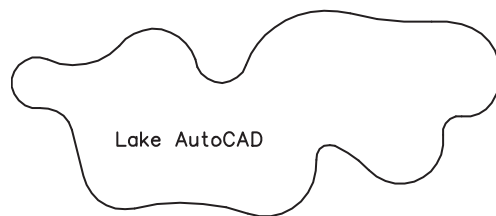

Fig. 5-11
1. Complete the drawings shown in Figs. 5-11 and 5-12. Don't worry about text matter or exact shapes, sizes, or locations, but do try to make your drawings look similar to the ones in the figures. Save the drawings as **prb5-1a.dwg** and **prb5-1b.dwg**.